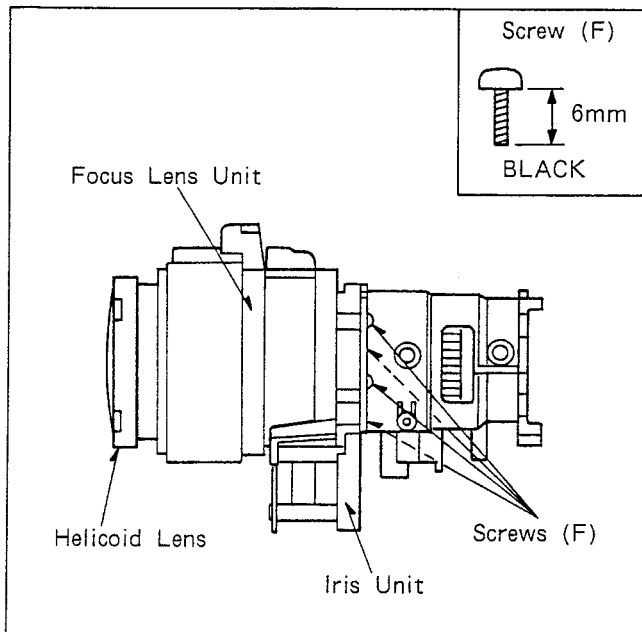
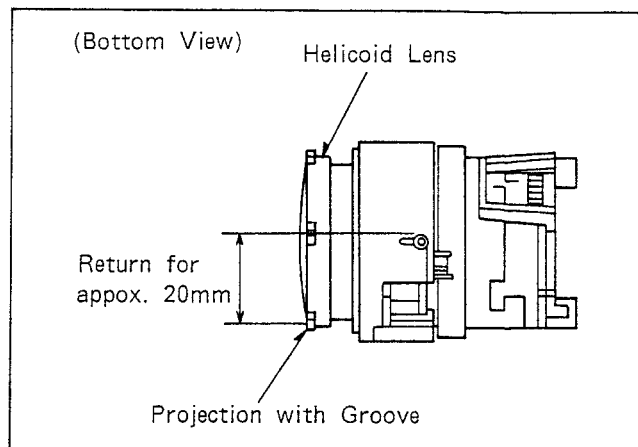

Fig. T7
Fig. T9
- (12) After replacing the Focus Lens Unit, Install the Iris Unit to Focus Lens Unit.
- (13) Install the Focus Lens Unit with Iris Unit and then tighten 4 Screws (F) as shown in Fig. T7.
- (14) Adjust the Helicoid Lens position as follows.
- a. Turn the Helicoid Lens to fully clockwise and return it for approx. 20mm (so that next installation become easy) as shown in Fig. T9.
- (15) Install the Focus Ring so that the Portion "B" on Focus Ring comes to Projection with Groove on Focus Lens Unit as shown below.